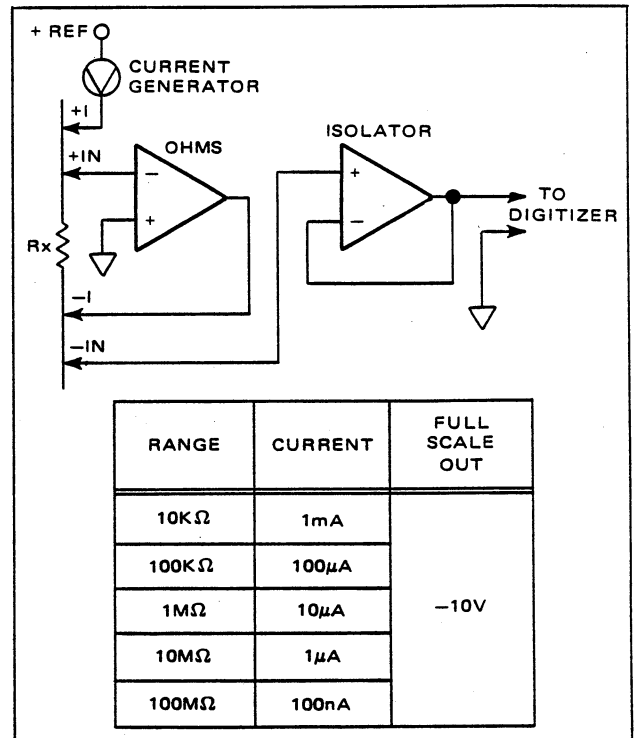

Figure 5.9 - 10K $\Omega$  - 100M $\Omega$  Ranges
5.3.4.5.2 The circuit configuration is dependent upon the range selected and may take one of three forms. Figures 5.9 - 5.11 show simplified block diagrams of these configurations. In each of the configurations, a current reference is applied to the resistance being measured. This resistance is connected as the feedback path for the Ohms amplifier and the current through this resistance will equal the current provided by the current reference. The output of the Ohms amplifier is a negative DC voltage proportional to the resistance being measured.
5.3.4.5.3 *10K $\Omega$  - 100M $\Omega$  Ranges.* As shown in Figure 5.9, the output of the Ohms Amplifier is applied to the positive input of the Isolator. The Isolator has a closed loop gain of 1.0 in these ranges, and serves as a buffer between the Ohms amplifier and the Digitizer. The full scale output of the Ohms Amplifier and Isolator is -10 volts.